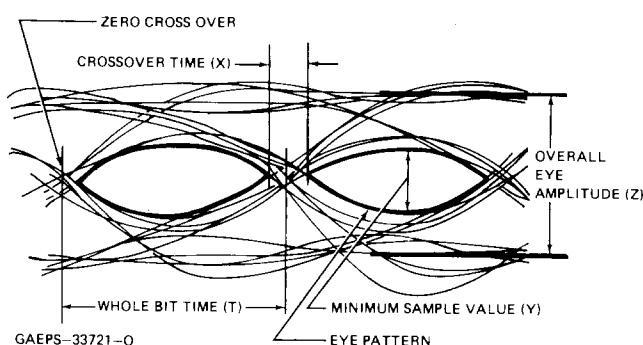

Figure 7. Cipher Text Waveform
- **CROSSOVER JITTER** is the ratio of crossover time (X) to whole bit time (T). See Figure 7. For example, with X equal to 0.55cm and T equal to 3.5cm, the crossover jitter is 15.7%.
- **EYE OPENING** is the ratio of the minimum sample value to the overall eye amplitude expressed as a percentage. See Figure 7. For example, with Y equal to 1.0cm and Z equal to 2.5cm, the eye opening is 40.0%.
- **EYE PATTERN** is transmit cipher text converted by the splatter filter. See Figure 7. The term eye pattern is used because the oscilloscope trace vaguely resembles the shape of the human eye.
- **ZERO CROSSOVER** corresponds to the transition point between bits. See Figure 7.